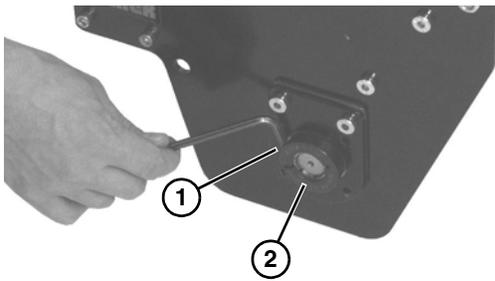

Figure 36
7. Loosen the bearing collar set screw (**Figure 36, item 1**) and remove bearing collar (**Figure 36, item 2**).
8. Remove three socket head screws (**Figure 36, item 1**), and remove plate and drive terminal assembly (**Figure 36, item 2**) from drive spindle (**Figure 36, item 3**) and crossmember (**Figure 36, item 4**).
9. Remove drive spindle (**Figure 36, item 3**), from opposite side plate and drive terminal assembly (**Figure 36, item 5**).